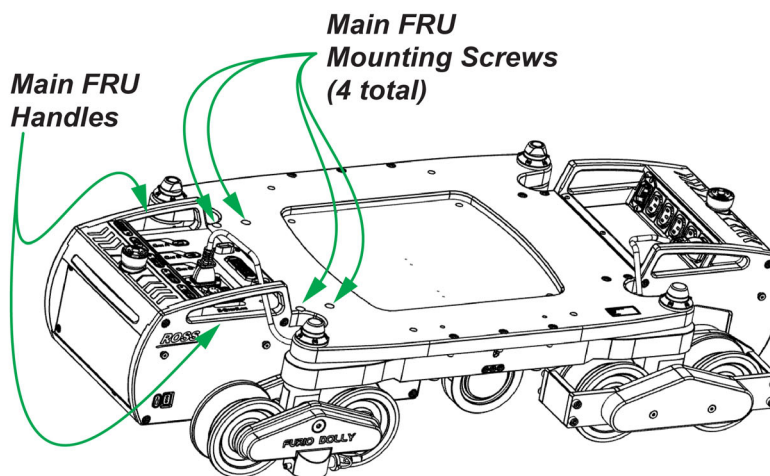

Figure 29 - Furio SE Dolly Base, showing Four Mounting Screws that Secure the Main FRU
2. Insert and tighten the four mounting screws you removed in **“Step 2: Removing the Main FRU”** on **page 6**, using a 5 mm hexagonal wrench, as shown in **Figure 29**.